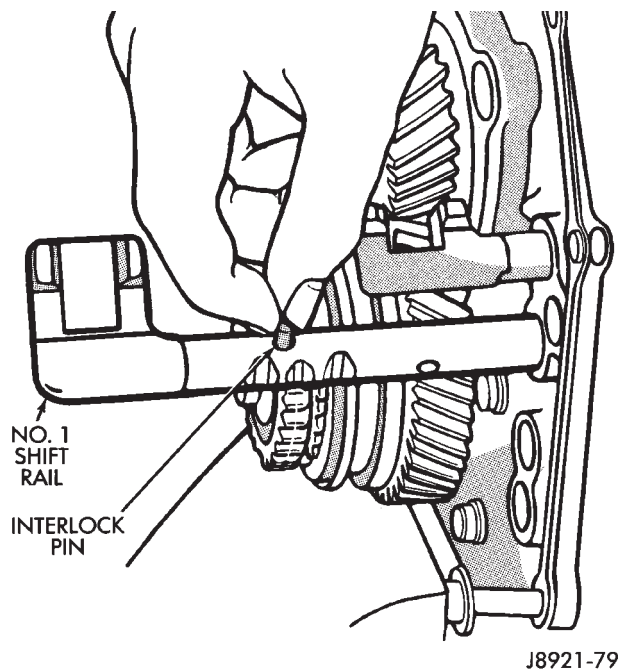

Fig. 79 Installing Interlock Pin In No. 1 Shift Rail
(7) Install smaller diameter interlock pin in No. 1 rail (Fig. 79).